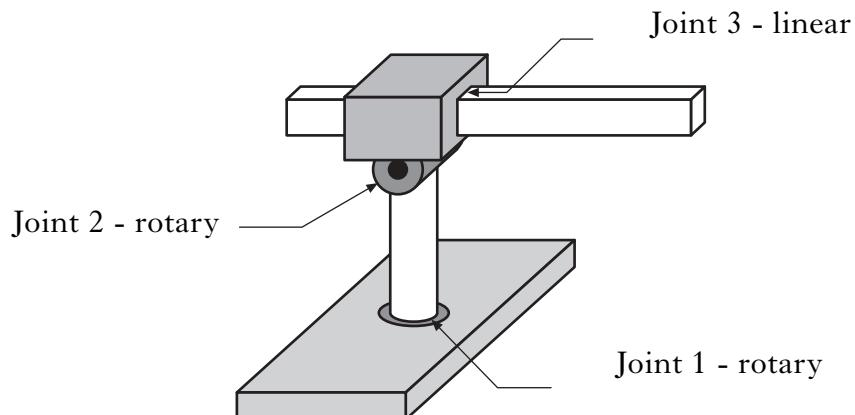

Figure Q2
2. (a) Figure Q2 shows a labelled diagram of a polar robot.